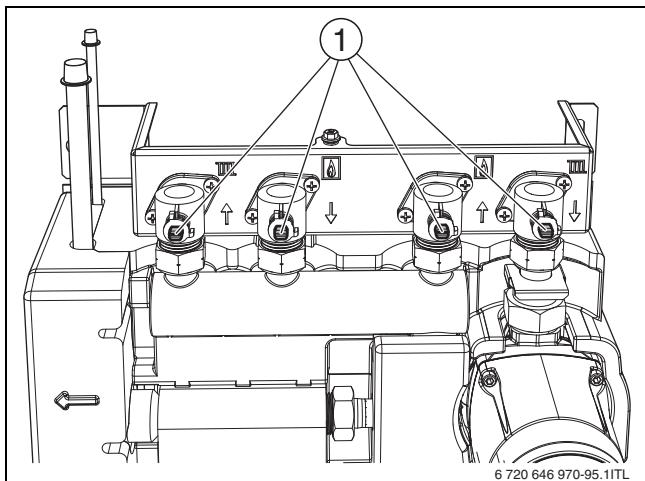

Fig. 52 Closing shut-off valves on the hybrid manager
- Close all of the shut off valves on the hybrid manager water connections (Fig. 52, Page 49).